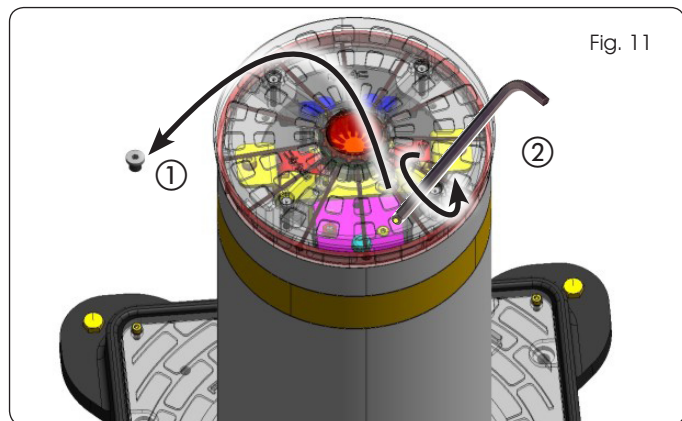

Fig. 11
3. Turn counter-clockwise to lower the bollard (fig. 11 ref. ②).